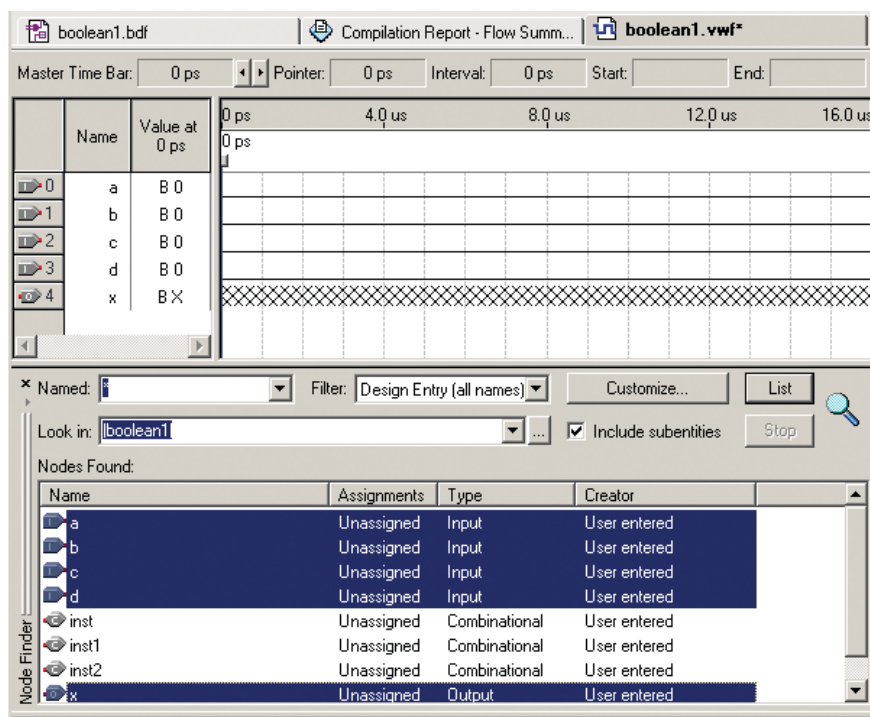

Figure 35 Dragging the input/output names from the Node Finder screen to the *vwf* screen.
24. Next we will use the computer mouse to drag the input and output names from the Node Finder screen to the *boolean1.vwf* screen. You can do this by using the mouse to drag each individual input/output with the left mouse button, or you can highlight all five names by holding the CTRL key while you left-click on each of the five input/output names, then drag them all at once (see Figure 35).